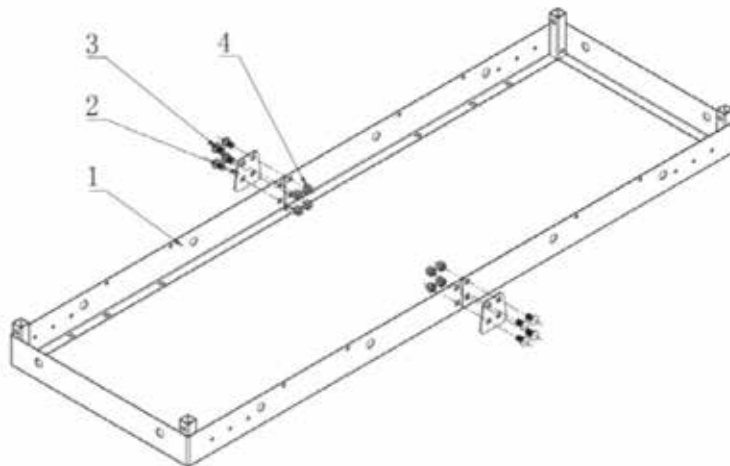

FIG. 1
Step 1. Connect the two supporting frames (1) with the connecting piece (2). Line up the corresponding square holes and secure with four M10x20 carriage bolts (3) and four M10 lock nuts (4). Repeat with the other connecting piece (2) on the other side. Do not tighten completely yet. See Fig. 1.